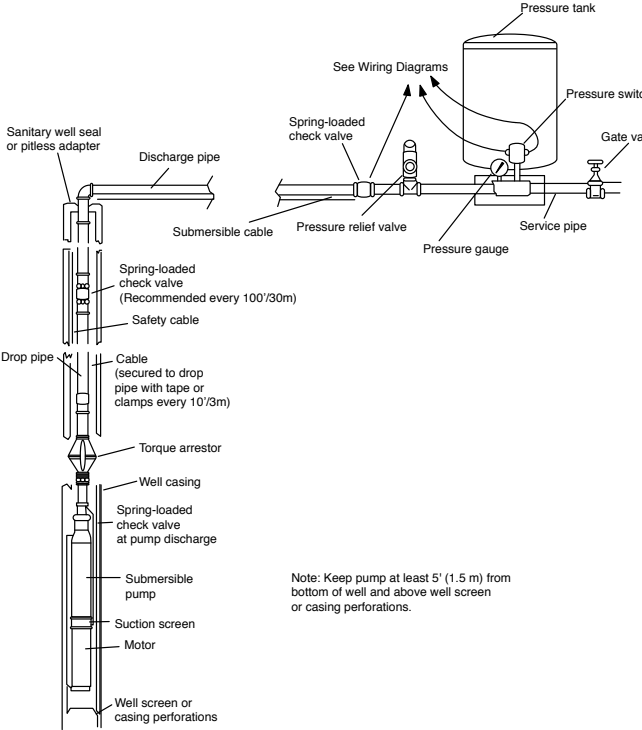

FIGURE 1
- 2. Install pump and components appropriate for the test as shown in Fig. 1.
2. A torque arrestor just above pump to prevent chafing the cable when pump and pipe twist during the starting and stopping cycle. (See Figure 1.)
Figure 1 illustrates a typical well installation showing in ground components. Adhere to the following items when installing the pump and drop pipe:
Figure 1 illustrates a typical well installation showing above-ground components. Refer to Figure 1 and the following steps when installing the discharge plumbing.